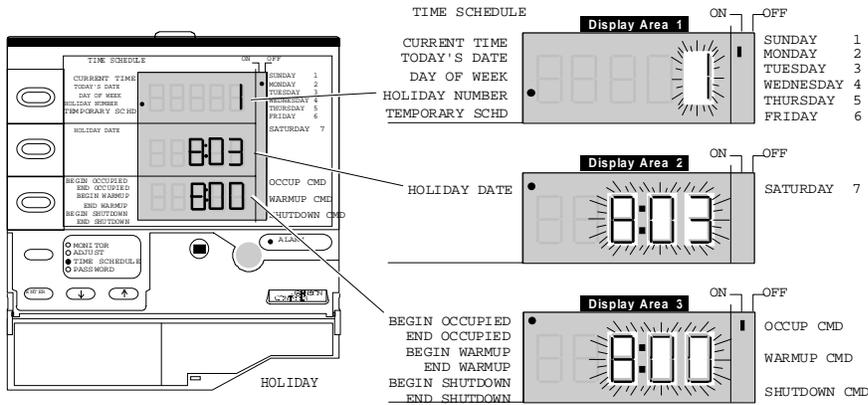

Figure 14: Choosing the Holiday
1. Press Display Button 1 until the ● is next to the words Holiday Number. See Figure 14.